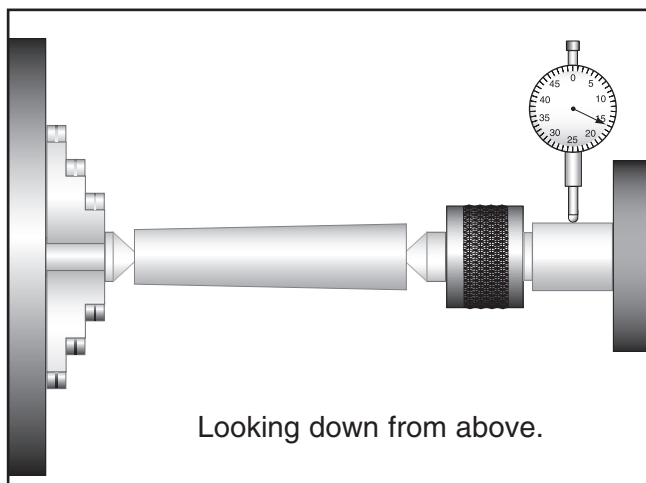

Figure 15. Adjusting for headstock end taper.
6. Mount a dial indicator so that the plunger is on the tailstock barrel (Figure 15).
7. Measure the stock with a micrometer. If the stock is wider at the tailstock end, the tailstock needs to be moved toward the cutter the amount of the taper (Figure 15).